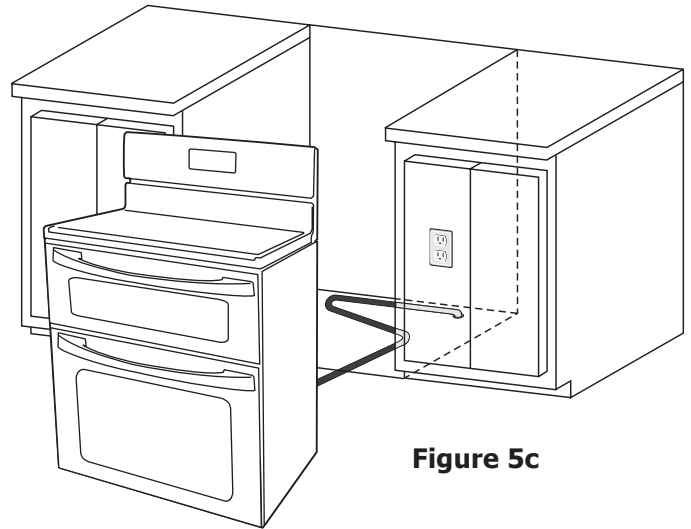

Figure 5c
- G. Form the gas flexible connector as shown on figure 5c. This will prevent the flexible connector from pinching or blocking the unit when you will push it back in its final position.